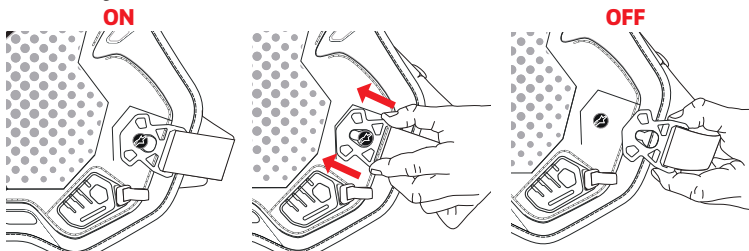

Figure 10: System Turns Off When the Activation Buckle (2) is Unfastened
The User can easily turn the System off by unfastening the Activation Buckle (2). The System will automatically shut down approximately 1 second after opening the Activation Buckle (2) (Figure 10).
Alternatively, the User can manually turn off the System by pressing the Display Button (3a) for approximately 5 seconds (Figure 10). A long vibration, lasting approximately 3 seconds will also be felt in the vicinity of the Activation Buckle (2) confirming that the System is no longer activate.